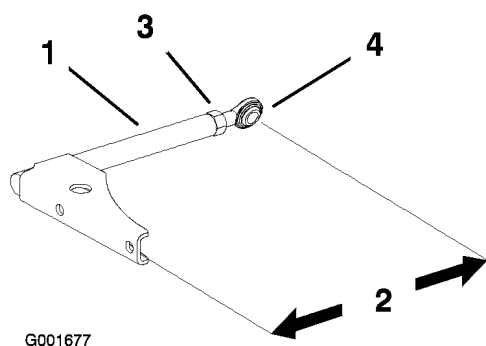

Figure 51
1. Loosen the jam nut and rotate the ball joint counterclockwise, one turn at a time (Figure 51).
2. Adjust each side the same amount. Each push arm should have a nominal length of 13-1/2 inch (34 cm) at a 15 degree twist (Figure 51).